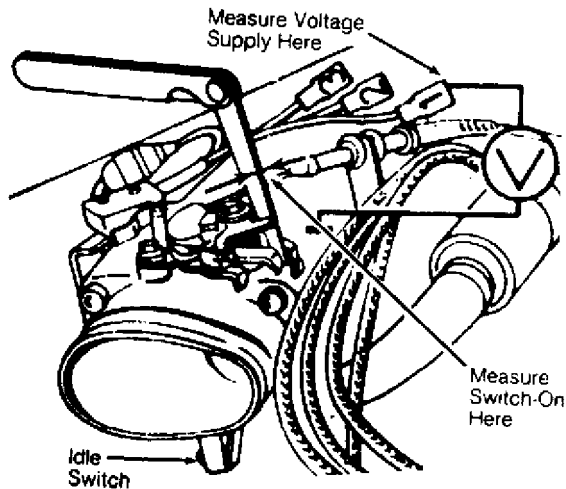

Fig. 6: Checking Idle Switch Adjustment
1) Check idle and adjust if needed. The idle air by-pass screw is located in the throttle valve. Adjusting the screw changes the amount of air by-passing the throttle plate raising or lowering idle speed See Fig. 6.